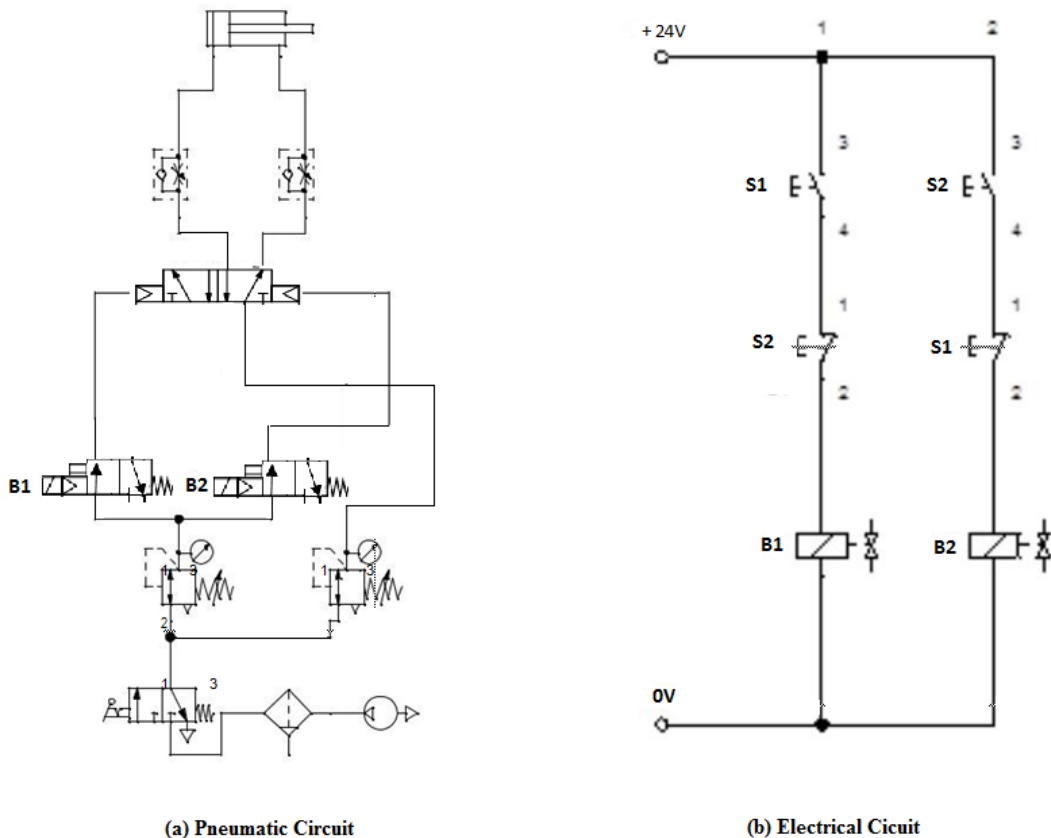

Figure 2.3: Circuit drawing of pneumatic and electrical circuits for Task 1
1. Connect the pneumatic circuit as shown in **Figure 2.3(a)**.
2. Connect the electric circuit as shown in **Figure 2.3(b)**.
Based on your understanding, describes the expected result if both solenoids (B1 and B2) in **Figure 2.3(b)** are swapped.